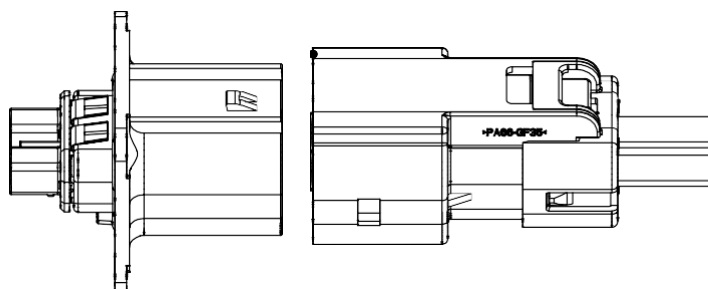

Figure 16
1. Align the plug connector and header assembly as shown in Figure 16.